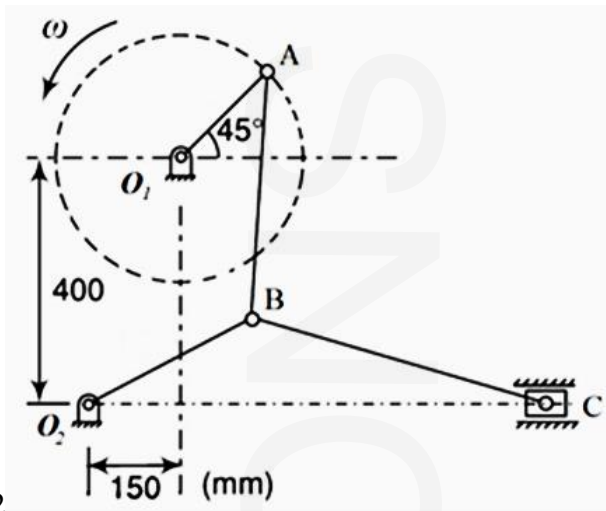

Fig. 2
- 12 In the toggle mechanism shown in Fig. 2, The crank OA rotates at a uniform speed of 200 rpm counter-clockwise (ccw). For the given configuration, $O_1A = 200$ mm, $AB = 400$ mm, $O_2B = 300$ mm, and $BC = 500$ mm. Determine (a) velocity of slider C (b) angular velocities of links AB, O_2B , and BC, (c) rubbing velocities on the pins of 25 mm diameter at A and C. (c) Torque required at crank O_1A for a force of 1000N at C. 14